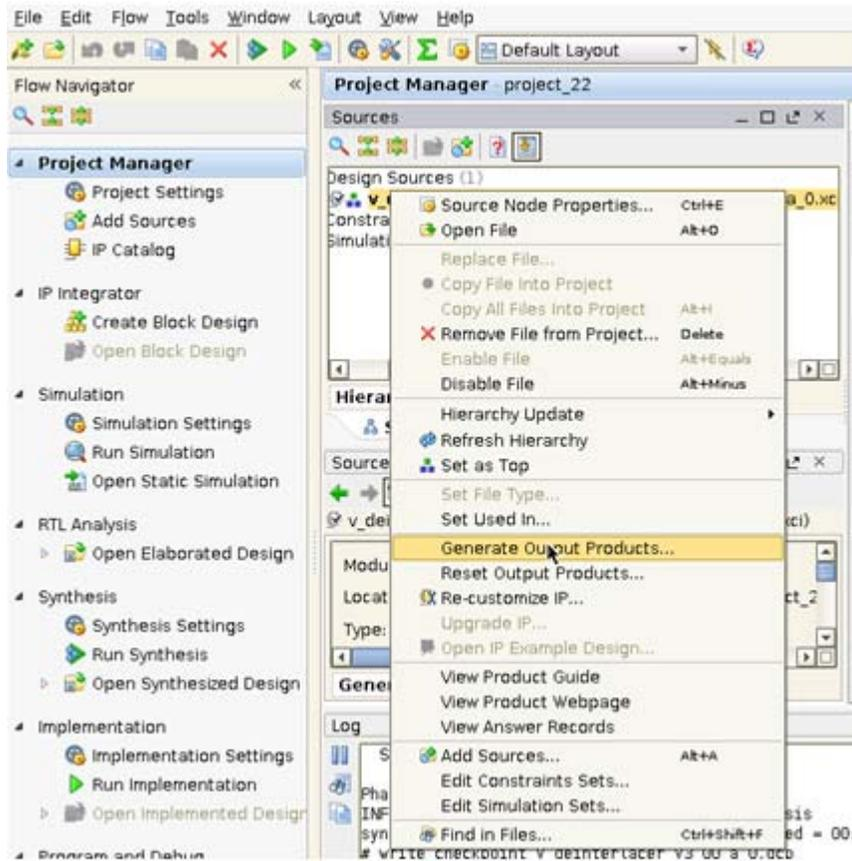

Figure 6-1: Sources Pane
1. After customizing the IP, right-click on the core instance in **Sources** pane and select **Generate Output Products** (Figure 6-1).